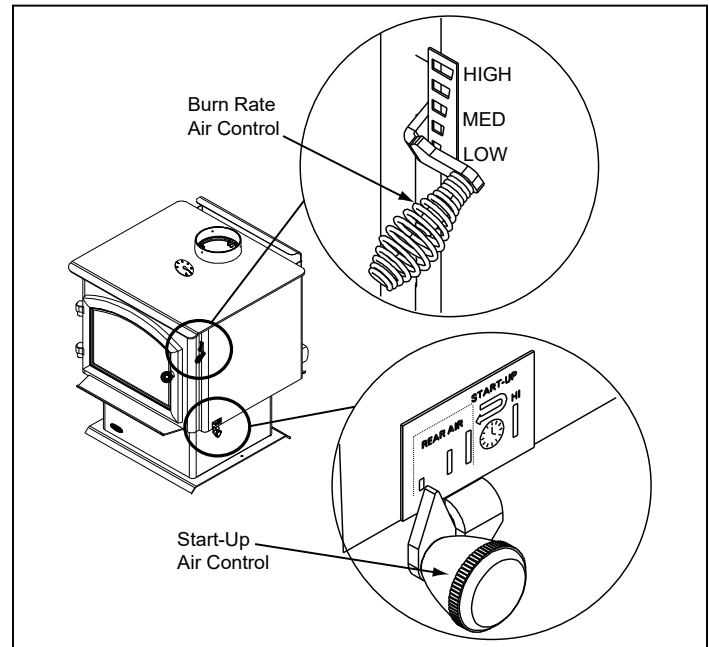

Figure 9.1
2. **Second Stage:** The next stage of burning, the secondary stage, is the period when the wood gives off flammable gases which burn above the fuel with bright flames. During this stage of burning it is very important that the flames be maintained and not allowed to go out. This will ensure the cleanest possible fire. If the flames tend to go out, it is set too low for your burning conditions. The air control located at the upper right hand corner is used to adjust for burn rates. This is called the Burn Rate Air Control (Figure 9.1 on page 9).
1. **Burn Rate Air Control:** This air supply enters at the upper front of the firebox, near the top of the glass door. This preheated air supplies the necessary fresh oxygen to mix with the unburned gases, helping to create second, third and fourth combustions. This air is regulated by the Burn Rate Air Control. When the control is moved all the way up it is on the High setting and when moved all the way down it is on the Low setting (**Figure 9.1**).
1. **Start up and Reloading Fuel:** Open both Burn Rate Air Control and ACC systems fully. To do this with the Burn Rate Air Controls push spring handle up to high. For the ACC timer system push knob towards back of appliance until the knob is located under the high position (**Figure 9.1**).
2. **Maximize Heat with The ACC System:** To maximize heat output with the ACC timer System or also known as high burn push the ACC Air Control lever towards the back of the appliance and leave. This combined with having the main burn rate control lever pushed up will deliver the most amount of air needed to achieve the highest amount of heat output (**Figure 9.1**).
- Then activate the ACC timer system by pushing the knob all the back toward the appliance to “HI” then pull forwards towards the front of the appliance until the knob stops (Figure 9.1 on page 9).